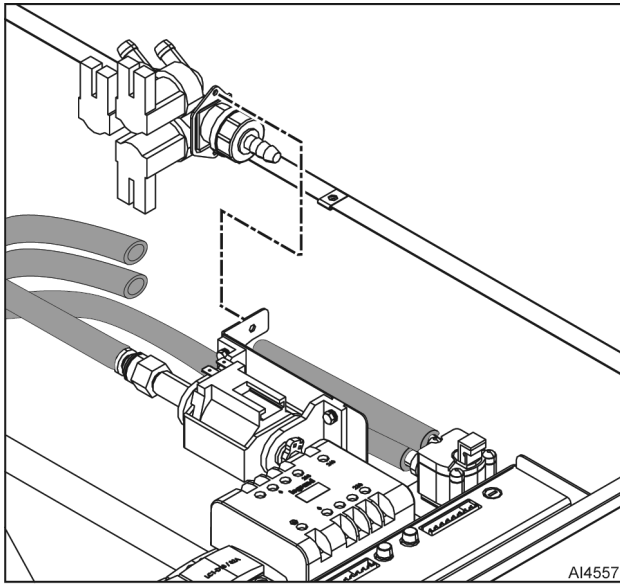

Fig. 51
3. Remove flow motor hose (Fig. 51).